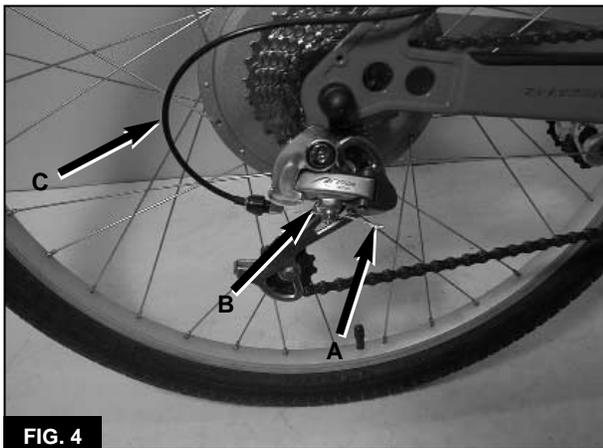

FIG. 4
- c. If necessary, balance the caliper arms by turning the spring-tension adjuster (B, **Figure 4**) on either arm.
4. At the derailleur, remove the end cap (**A**, **Figure 4**) from the end of the inner wire.
6. Slide the lower cable housing (**C**, **Figure 4**) off the inner wire. Do not lose the ferrule from either end of the lower cable housing.